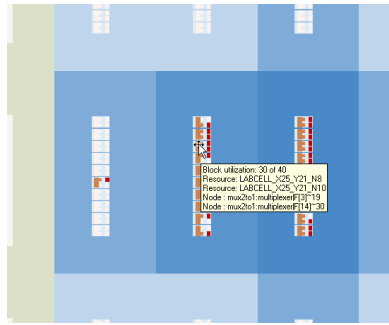

Figure 24: A portion of the expanded view.
- A Zoom Tool, activated by the icon  in the left hand toolbar, can be used to enlarge parts of the image even more. You can click and drag a box over an area of the chip to quickly zoom into that part of the chip. Figure 24 shows a zoomed-in view of the floorplan that highlights the implemented circuit. By positioning the cursor on any logic element, the designer can see what part of the circuit is implemented in this resource. The chip planner tool has several icons that can be used to view aspects such as fan-in and fan-out of nodes, connecting paths between nodes, and so on. For more information on using this tool, refer to Help by selecting Help > Contents > Achieving Timing Closure > Working With Assignments in the Chip Planner from the main Quartus® II display.